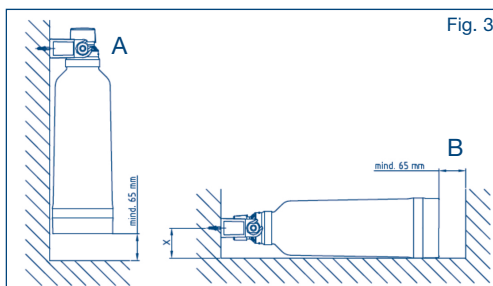

Fig. 3
2. The filter system can be installed and operated in horizontal and vertical position (see Fig.3)